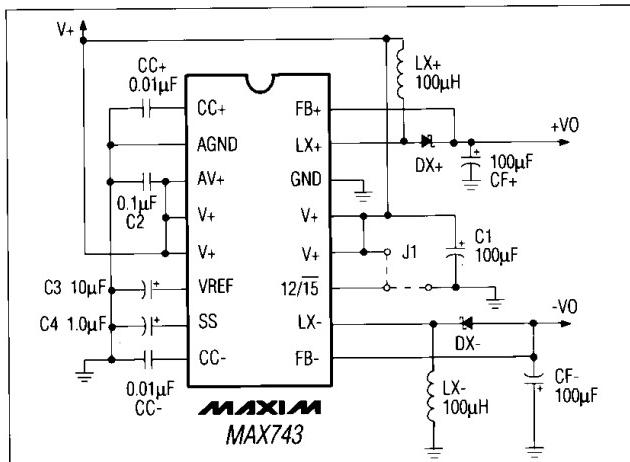
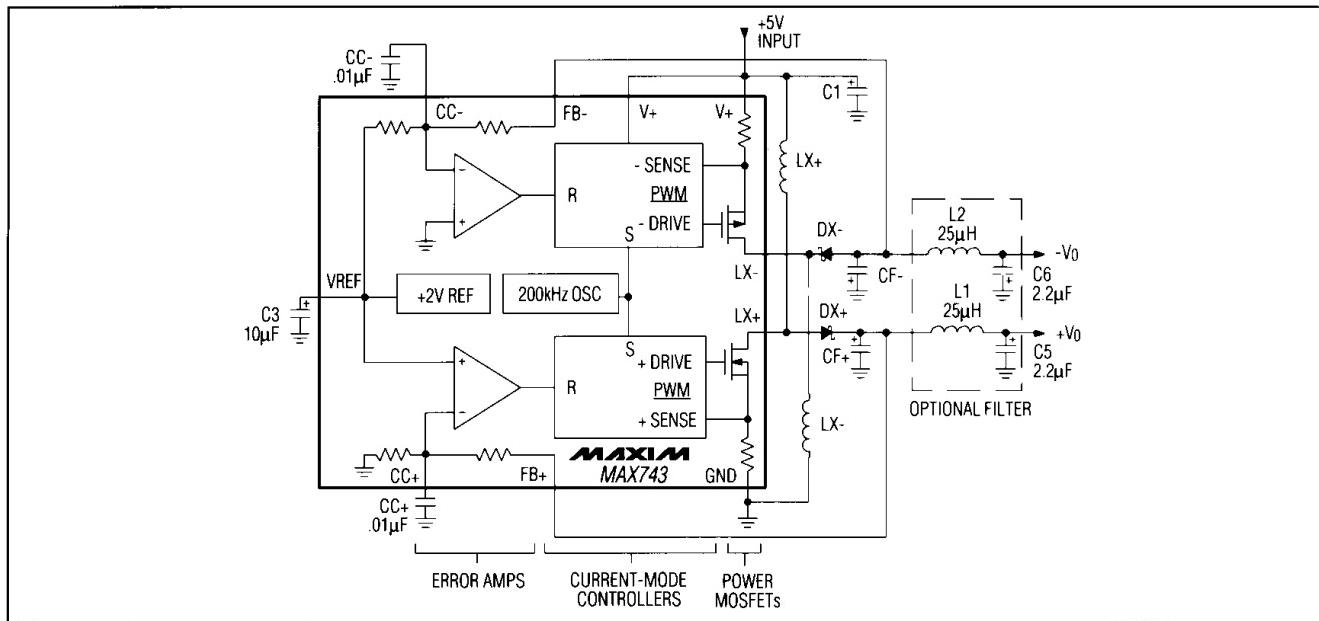
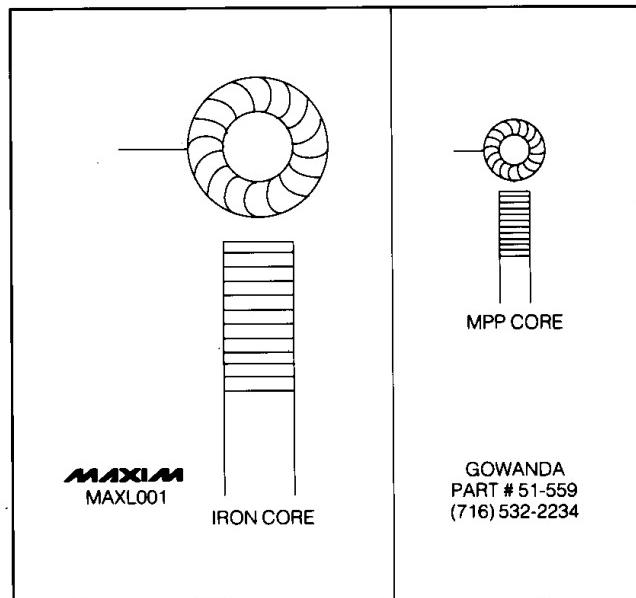
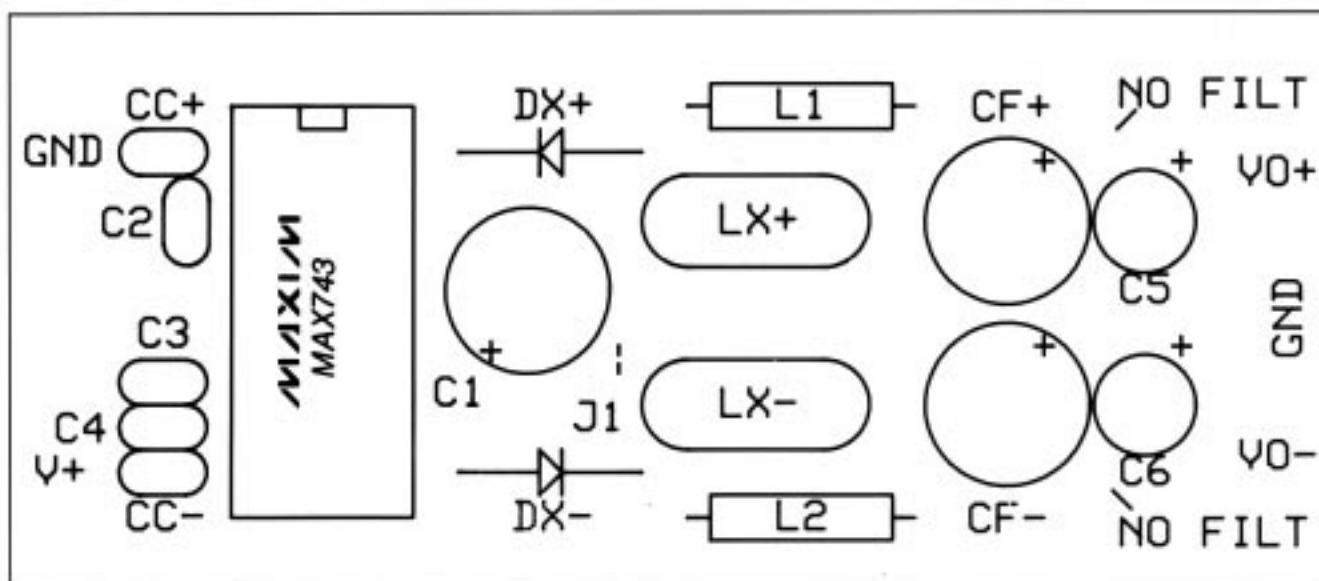

Figure 1. Basic Application Circuit
Figure 4. Functional Diagram with Optional Pi Filter
Figure 5.  $100\mu H$  Low-EMI Inductors for 3W Supplies (Actual Sizes) (See Table 1)
Figure 7. Component Placement Diagram for PC Layout of Figure 6
(Circuit of Figure 1, +4.5V < V+ < +5.5V, Note 1.)
(Circuit of Figure 1, V+ = +5.0V, 12/15 pin = 0V, ILOAD = 0, TA = TMIN to TMAX, unless otherwise noted.)
The circuit in Figure 1 has been tested at all line, load, output current, and temperature limits. Refer to the Electrical Characteristics table for guaranteed in-circuit specifications. Successful use of this circuit requires no component calculations.
The MAX743EVKIT Evaluation Kit demonstrates the output capabilities and noise performance of the MAX743 standard application circuit (Figure 1). The kit includes main switching components identical to those found in the high-volume production kit described on page 11 (MAX743CPEKIT). With a few quick modifications, the circuit can also serve as a low-noise test bed to evaluate other components, such as the miniature MPP toroid inductor of Figure 5. The kit includes optional Pi filters shown in the Functional Diagram (Figure 4), which reduce output noise to less than 2mVp-p.
**1. Build Circuit.** Assemble the PC board according to the component placement diagram of Figure 7 and the schematic of Figure 4. 3 resistors will be left over (and used for testing). The extra holes near LX and CF are options for nonstandard component sizes. Do not install jumper, J1, or C4.